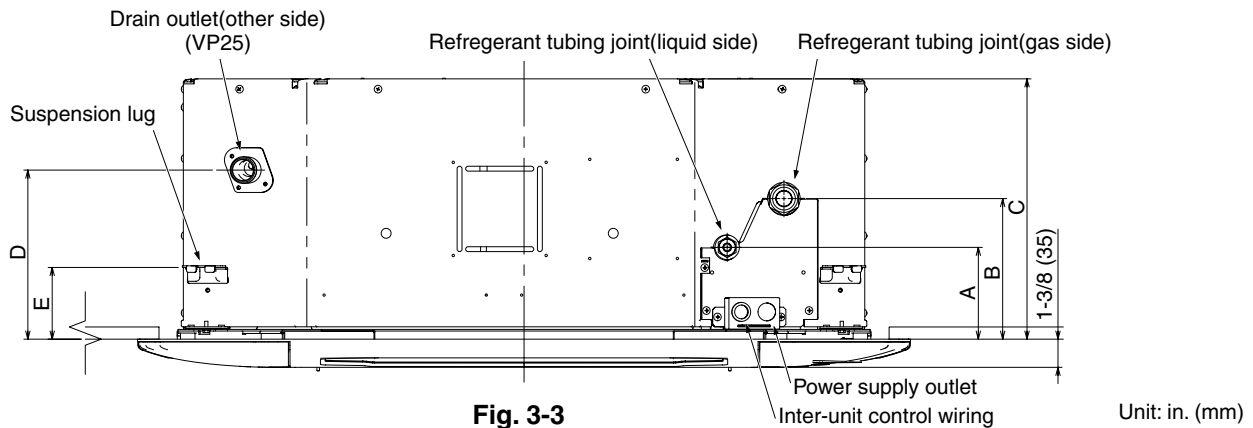

Fig. 3-3
(3) Determine the pitch of the suspension bolts using the supplied full-scale installation diagram. The diagram and table (Fig. 3-3 and Table 3-2) show the relationship between the positions of the suspension fitting, unit, and panel.